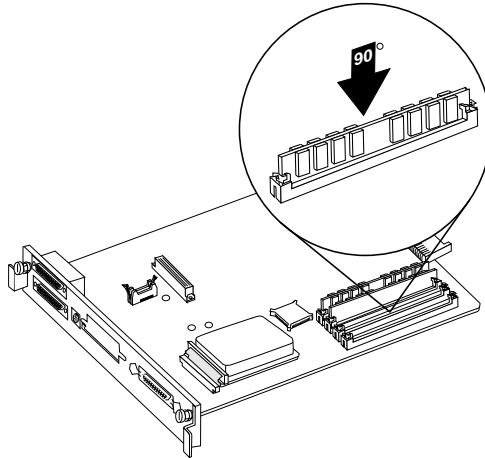

Fig. 8.16 Pull the SIMM Forward into Position
- Gently pull the SIMM forward to a 90° angle until you feel it fit into place (fig. 8.16) behind the clips on either side of the connector. (You may need to use your fingers to open these clips.) When seated, the SIMM stands upright, firmly in place.